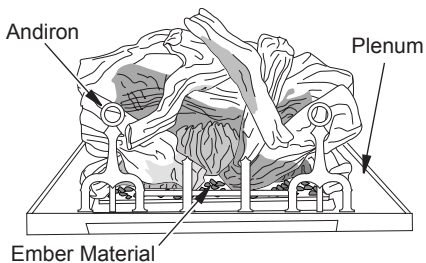

Figure 39 - Placing Ember Material on Burner
1. Pull ember material apart into pieces no larger than a dime. Place these pieces loosely and sparingly directly onto exposed front section of burner (see Figure 39, page 26). This will create the glowing ember appearance as flame touches ember material. Do not block air slots by using too much ember material in one area. Place small pieces of ember material to cover pilot ports. It is not necessary to use all of the ember material provided.